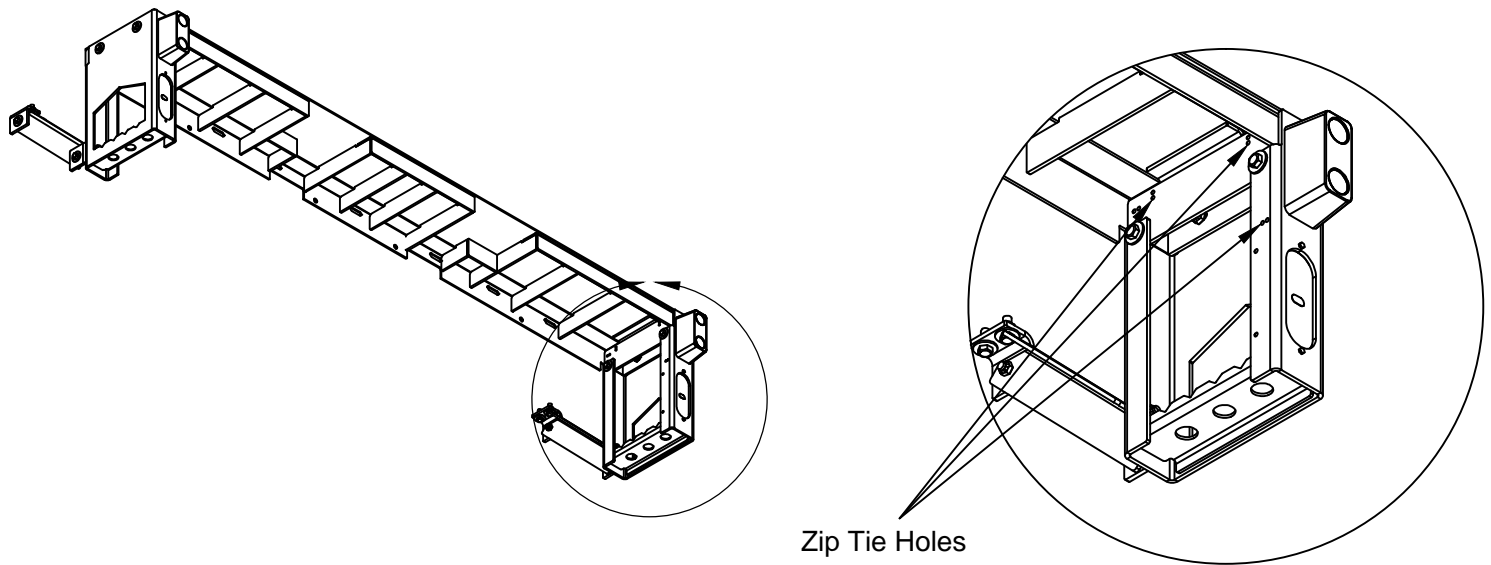

Figure 7: Zip tie locations.
7. **Zip tie** the wiring inside the bed extension, using provided holes (Figure 7).